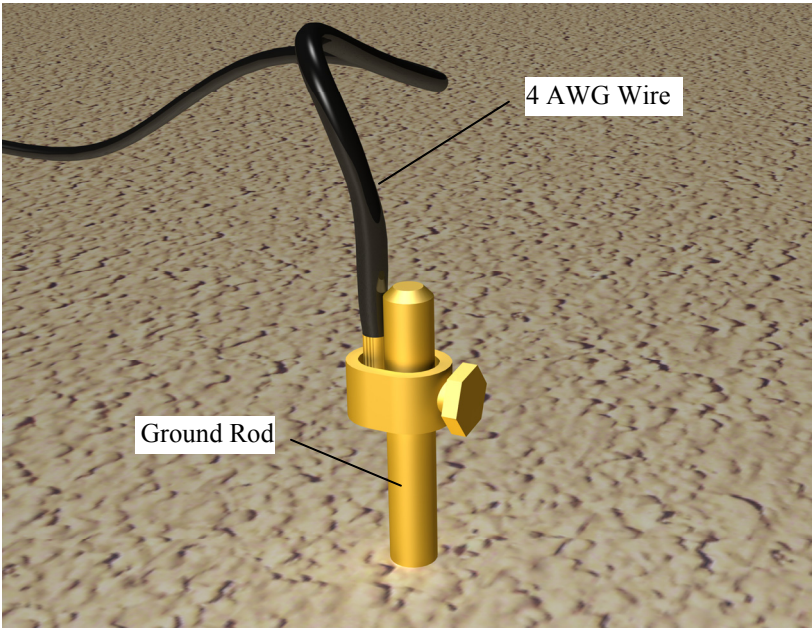

FIGURE 2.2-2. Close up of Ground Rod and 4 AWG Cable
3. Strip 1 inch of insulation from both ends of the 4 AWG ground cable. Strip 1 inch of insulation from the lower end of the 12 AWG ground wire. Loosen the lug's set screw and insert the 4 AWG and 12 AWG wire. Tighten the set screw (Figure 2.2-2).
4. Loosen the ground rod clamp. Insert the 4 AWG wire. Tighten the clamp (Figure 2.2-2).